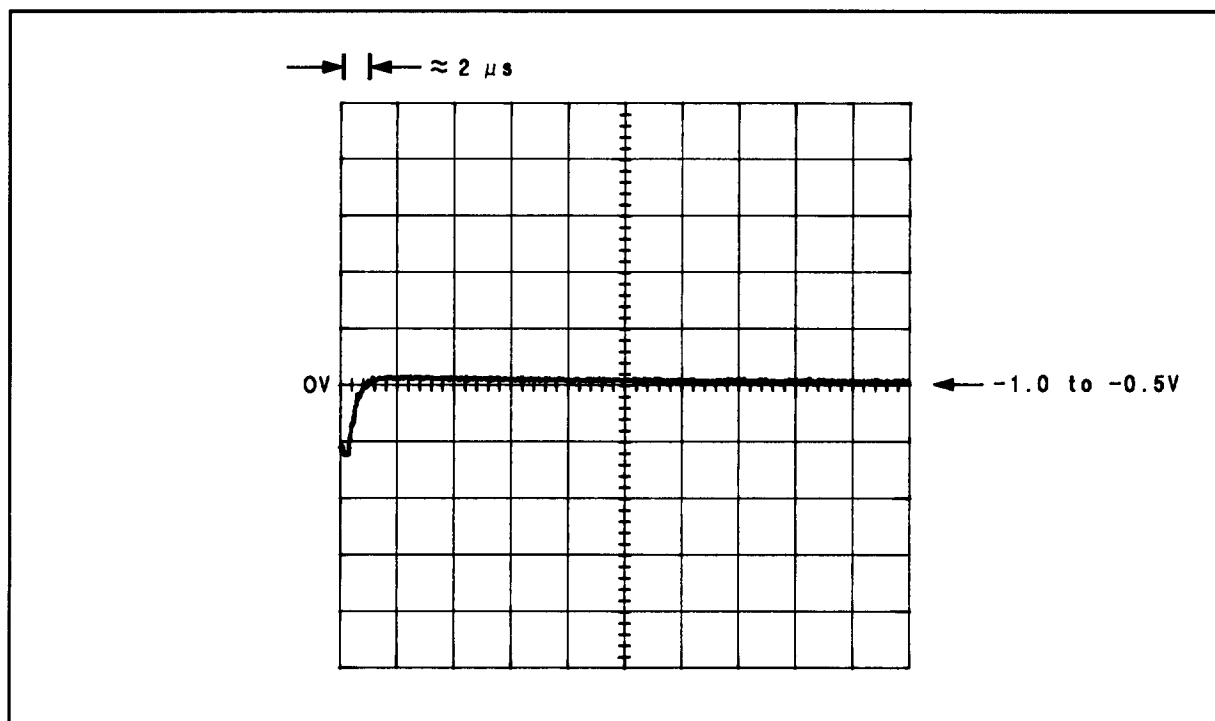

Figure 8F-32a. Waveform for $\boxed{\sqrt{1}}$ Step 4
4. Check the voltage at the collector of Q5 with a high-impedance, dc coupled oscilloscope. The waveform should be a square wave with an amplitude of approximately 1.6 Vpp and a period of approximately 2.8 ms, but more importantly, observe the falling edge. Set the oscilloscope to trigger on a negative slope with a sweep time of 2 μ s per division. The waveform will be intermittently stable and very faint but the falling edge should be as in Figure 8F-32a.